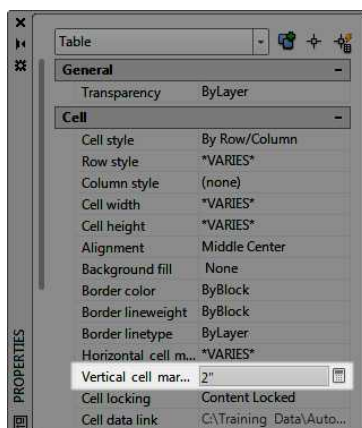

FIGURE 9.82: Modifying the Vertical Cell Margin property
5. Under the Cell heading within the Properties panel, change the Vertical Cell Margin property to 2" (50 mm), as shown in Figure 9.82.